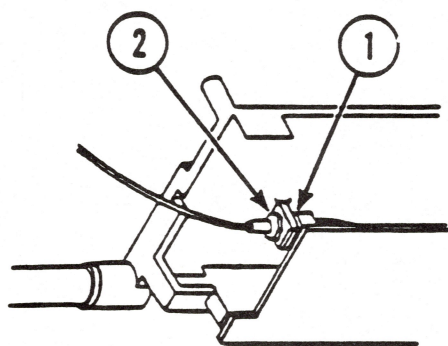

FIGURE 10
22. Using an adjustable wrench, hold the nut on the right side of the carrier wire in place (see Figure 10, #1). Using a needlenose pliers, remove the wire nut on the left side of the carrier wire (see Figure 10, #2).